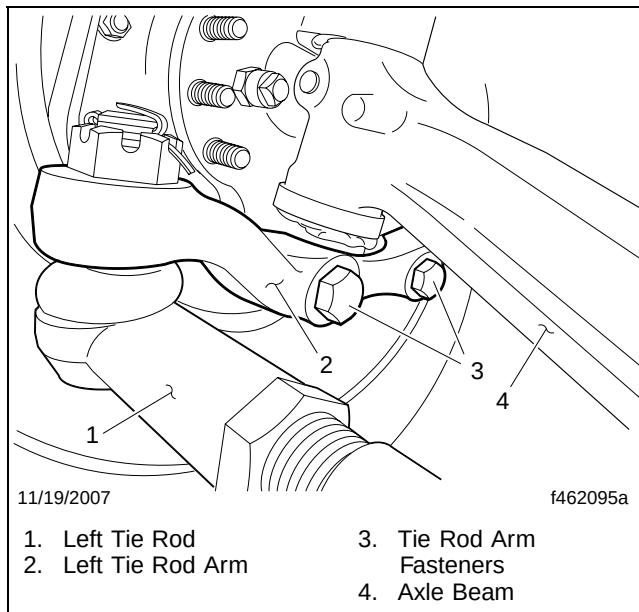
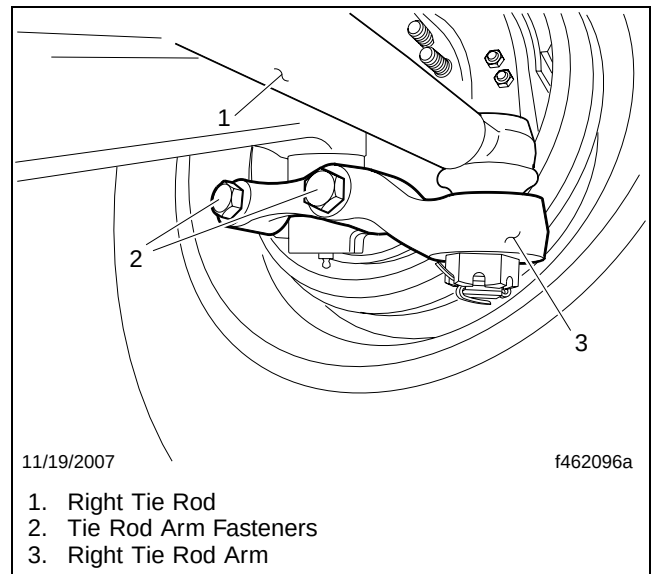

Fig. 1, Left Side of Vehicle
Fig. 2, Right Side of Vehicle
7.1 Remove and discard the fasteners that hold the tie rod arms to the steering knuckles. See **Fig. 1** and **Fig. 2**.